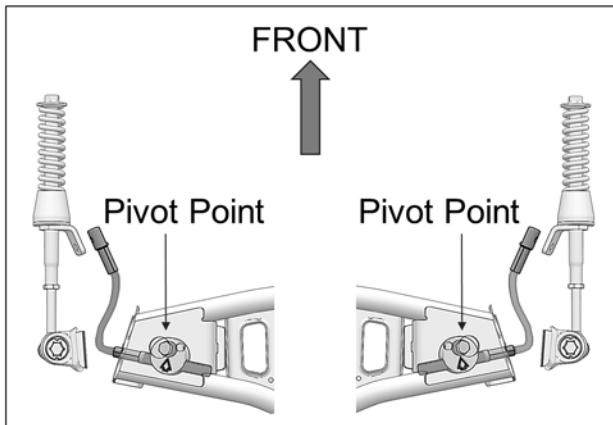

Fig. 25
13. Make sure aluminum disk pivot point is installed in front of steering limiter cable. See Fig. 25